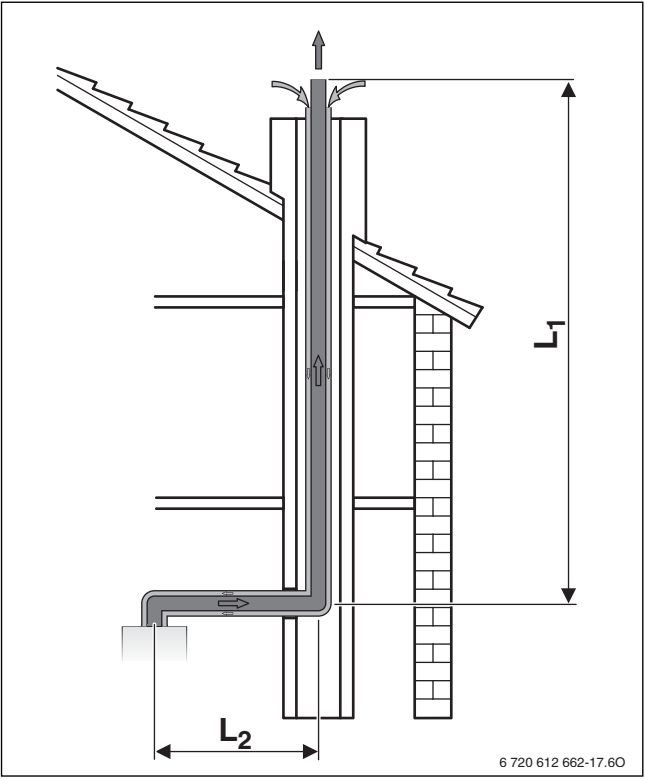

Fig. 21 Flue gas routing with concentric pipe in a duct as per C_{33}
- Combustion air supply through a concentric pipe inside a duct (C₃₃, → Fig. 21):